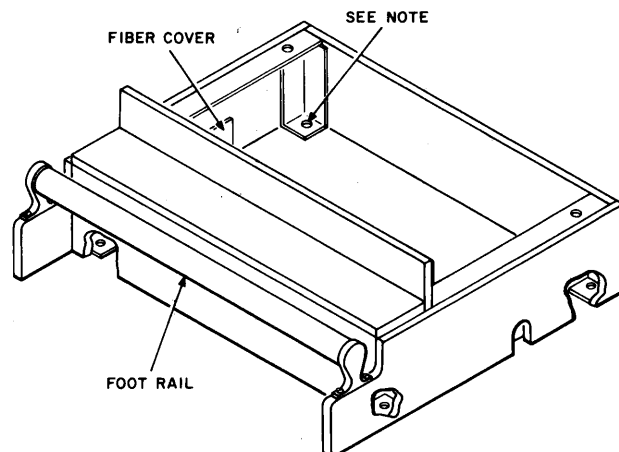

**Fig. 15—Modification of Writing Shelf for Rotary Card Dialer**
**3.16** The necessary modifications to the existing writing shelf and bulletin holder in order to install the rotary card dialer (MD) are shown in Fig. 15 and 16. An 18-volt 60-Hz supply transformer (2012B) which plugs into a 110-volt ac convenience outlet is also required. Mount the rotary card holder with the hardware included. Connect the (K1) plug of the card dialer cable to the (K) socket and the (K) plug of the dial cable to the (K1) socket on the card dialer cable.